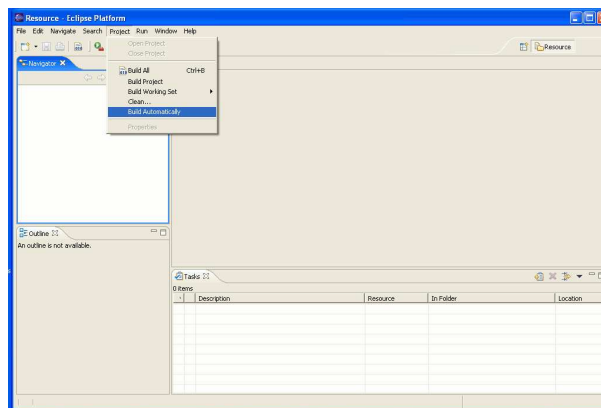

Figure 3.5: Deselect the “Build Automatically” flag in the “Project” menu.
5. Before creating and building your application, please deselect the "Build Automatically" flag inside the "Project" menu, as shown in Figure 3.5.